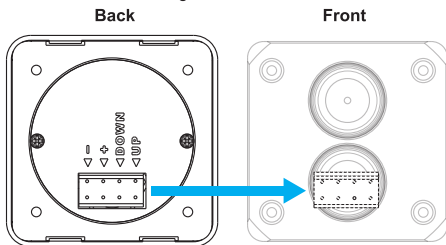

Fig.3
- For the correct positioning, ensure that the terminal block connector is to the lower side behind the Lofrans' Touch Panel (see Fig.3)